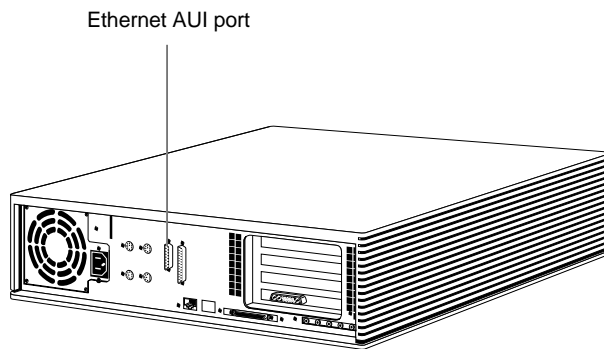

Figure 2-13 Ethernet AUI Port on the Back of the Indigo² Chassis
2. Attach the Ethernet cable to the Ethernet port on the back of the Indigo² chassis, as shown in Figure 2-13.